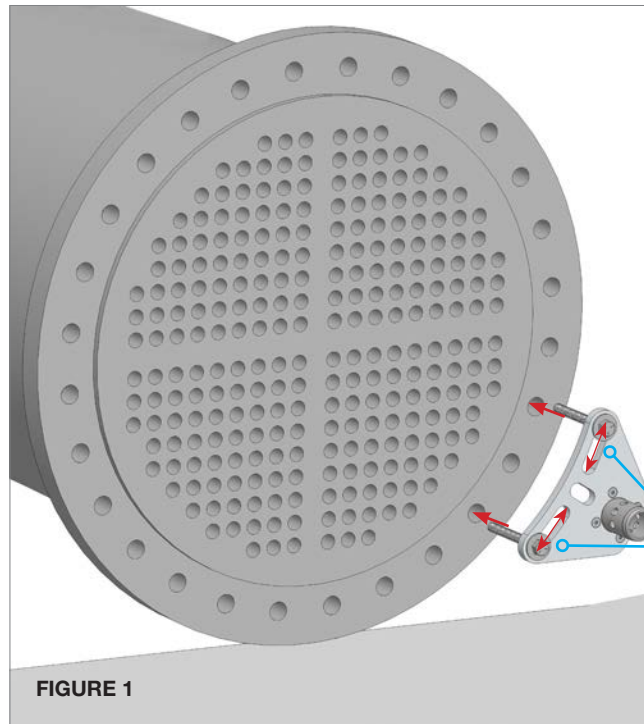

FIGURE 1
1. Install the Mounting Bracket onto the tube face. The best location for ease of set-up is in the lower right hand quadrant of the exchanger as shown in **(Figure 1)**. However, the COMPASS Positioner can be mounted in any of the bolt hole positions around the flange. The bracket has three mounting points. The two outside points are adjustable.
2. Insert a 5/8" x 6" Bolt with Flat Washer through each Adjustable Slot on the Mounting Bracket and holes on the exchanger Flange. Install Flat Washers and Hex Nuts on the end of each bolt. **(Figures 1 & 2)**
**💡 TECH TIP:** (2) 5/8" x 6" bolts are provided for convenience, but any bolts smaller than 1" or 25mm in diameter can be used.